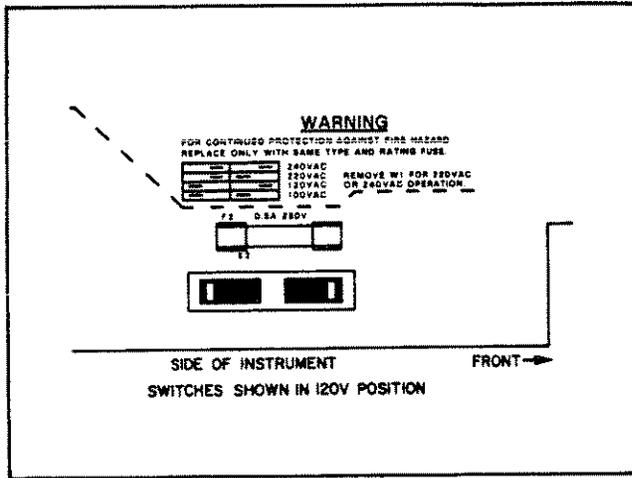

Figure 2-3. Line Voltage Select Switch
- c. The line voltage select switch is located on left side of main board (as viewed from front) near front of instrument (see Figure 2-3). Use a small-blade screwdriver to set the two switch sections to match the pattern silkscreened on main board as shown in Figure 2-3. For example, to set switches for 120V operation (as illustrated), move forward switch section so that its white slot is toward front of instrument and move rearward switch section so its white slot is toward rear of instrument.